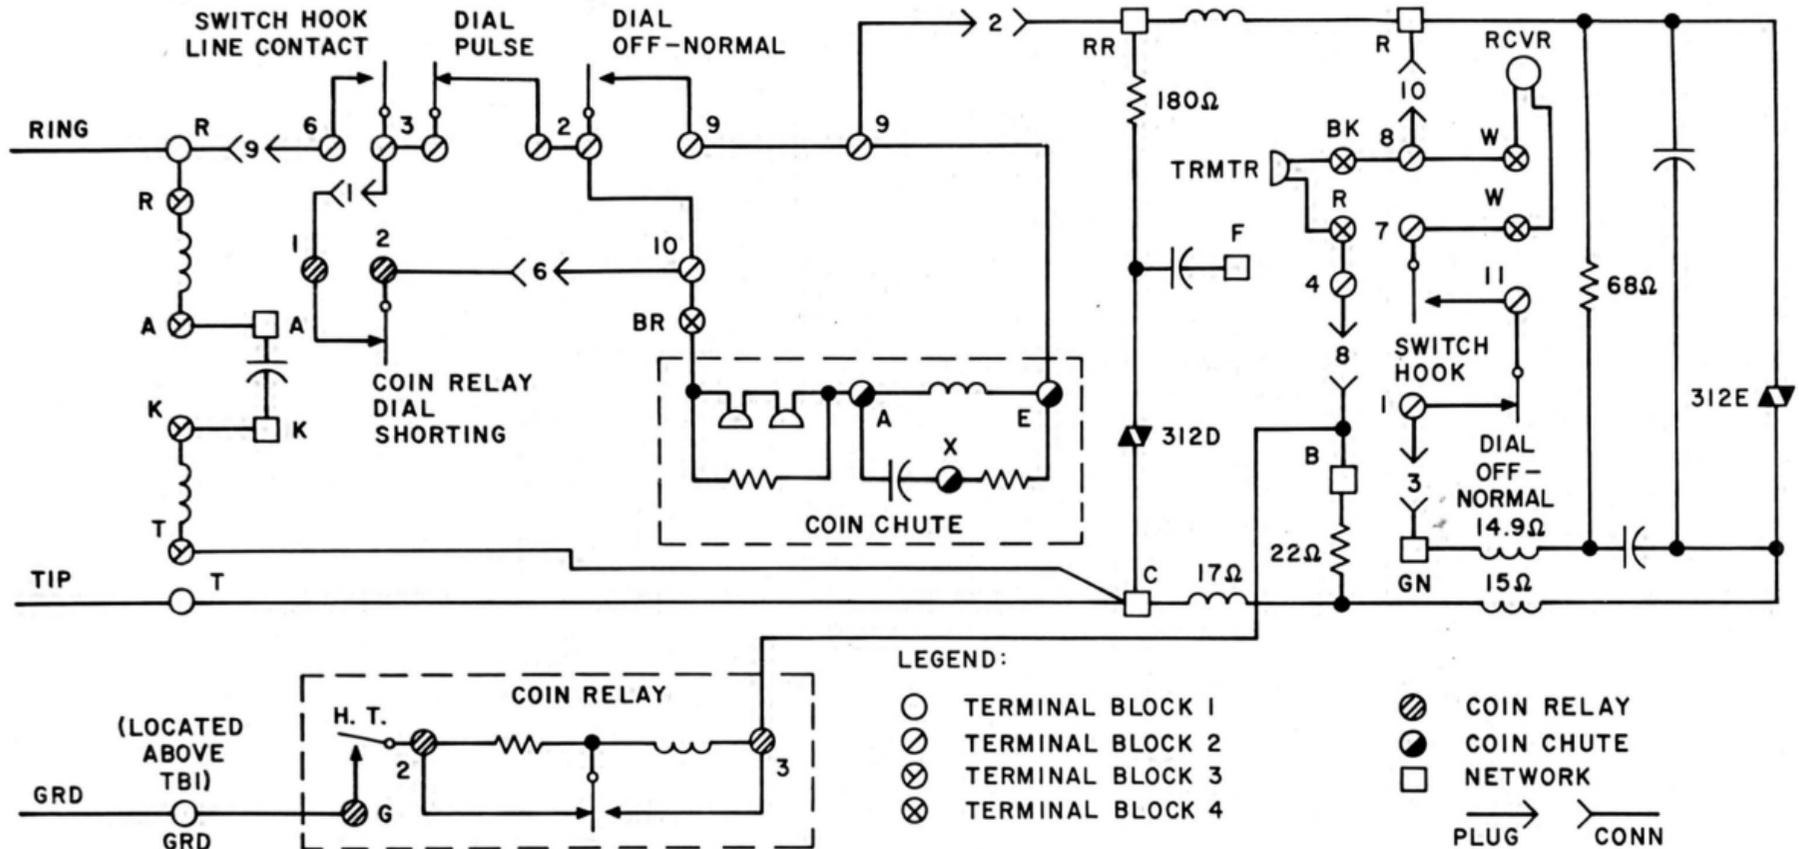

Fig. 8 - 235G Coin Telephone
- Fig. 8 — 235G Coin Telephone